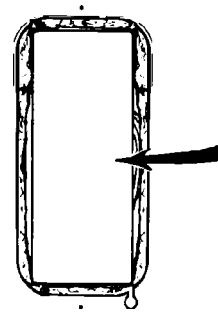

FIGURE 30.
17. Replace the insulation so that it covers the thermostat and element, see Figure 30.